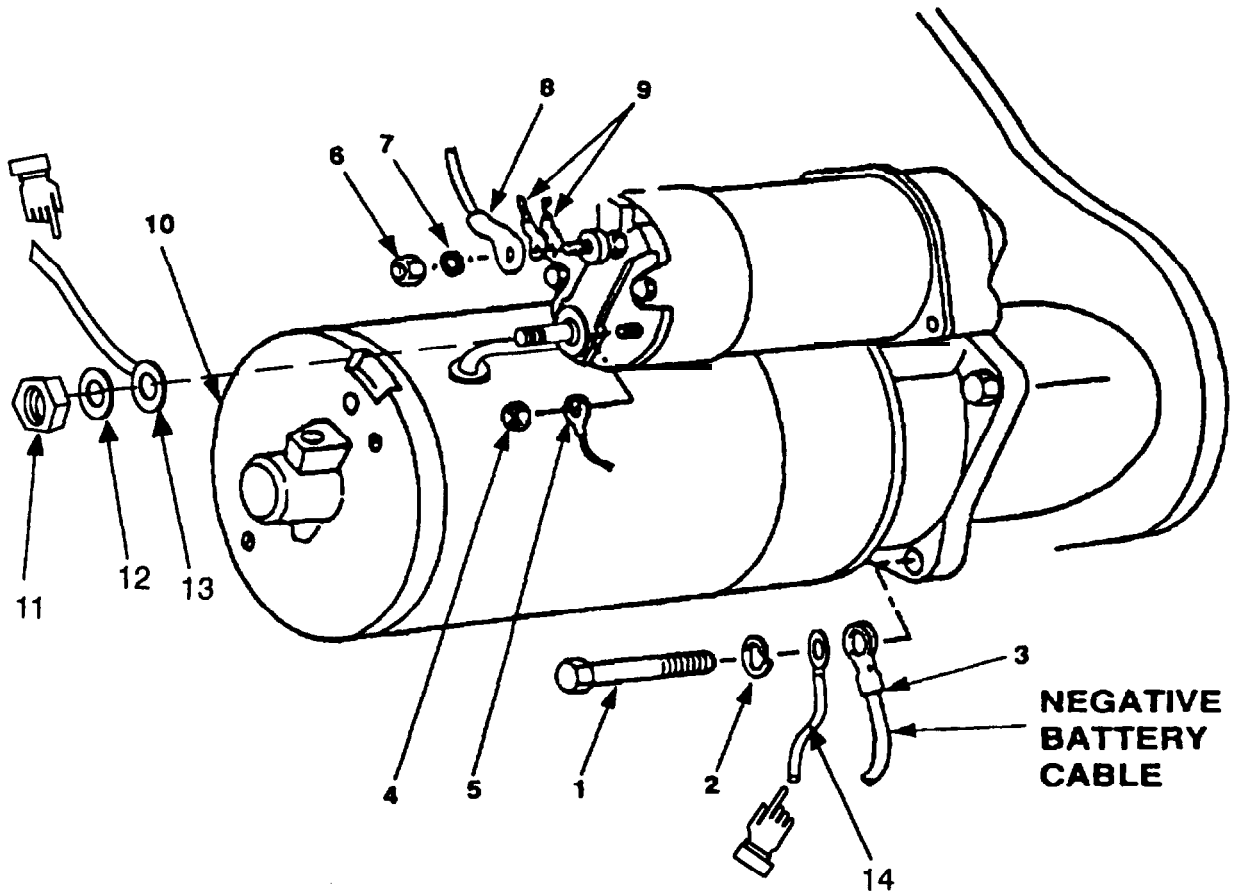

Figure 4-17. Starter Assembly Replacement.
- a. Remove bolt (figure 4-17, 1), lockwasher (2) and negative (-) battery cable (3).
- b. Remove nut (4). Tag and disconnect wire (5).
- c. Remove nut (6) and washer (7).
- d. Tag positive (t) battery cable (8) and wires (9).
- e. On Model 350 PAWN only, remove nut (11), washer (12) and wires (13). Tag wires.
- f. Remove remaining two bolts (1) and lockwashers (2) that secure starter (10) to engine.
- g. Carefully separate starter (10) from engine.